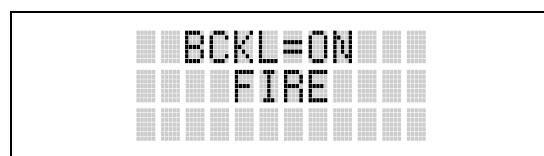

Figure 9-7: Backlight Menu Display
3. Press \textcircled{M} . The backlight menu item is activated. Line one shows the active menu item and its current parameter setting. Line two shows the currently selected system or group name (see Figure 9-7).